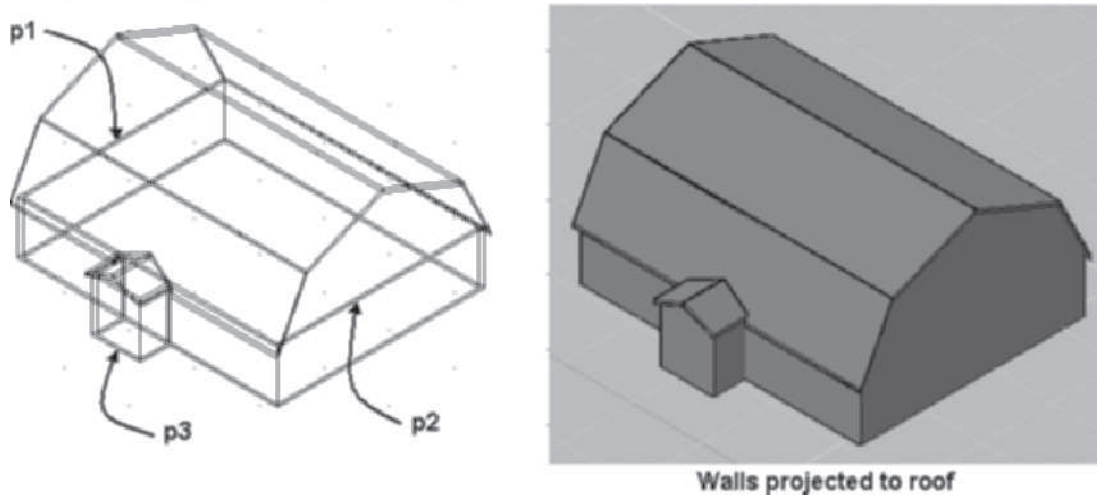

FIGURE 7.23 Extending walls to roof
18. In this step, the walls are projected to the roof. Select the walls at **p1**, **p2**, and **p3** as shown at the left in Figure 7.23. Choose **Modify Roof Line** from the Roof/Floor Line flyout of the Modify panel in the Wall contextual menu. Respond to the command line prompts as shown below:
19. Select the View tab. Choose **Conceptual** from the **Visual Styles** flyout menu of the **Visual Styles** panel to view the walls extended as shown at the right in Figure 7.23.